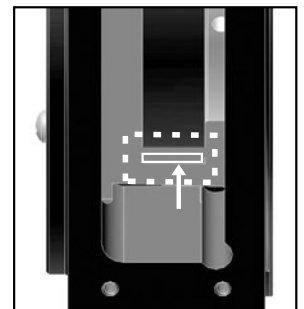

Figure 2.1
1. Remove a sensor plate or one of the sensors, and use the built-in gauge to check the location of the rotor (see Figure 2.1). Ensure the label marked “This side out” is facing away from the motor.